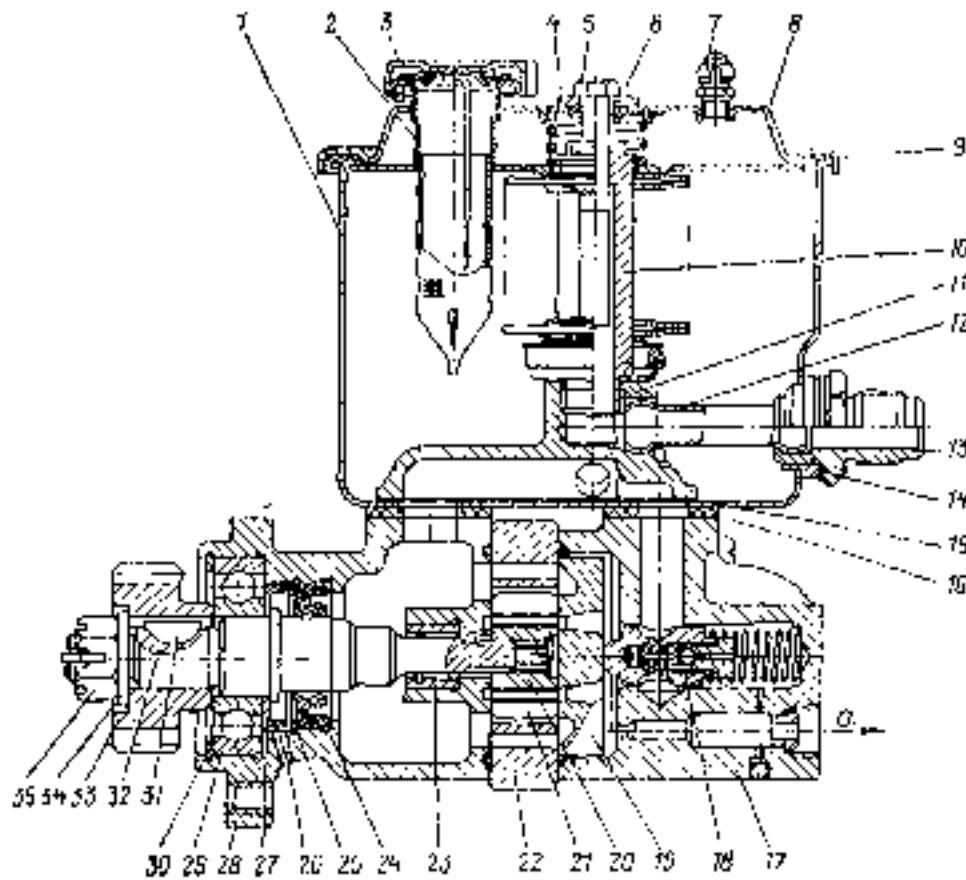

Fig. 96. Breast Pump:
Booster pump (Fig. 96) is a vane-type double-action unit. When the pump shaft rotates, the vanes are pressed to the stator curved surface under centrifugal force and pressure of the oil flowing under them. In the suction chambers the oil flows in-between the vanes, being then forced, when the rotor turns, to the delivery chamber.
5. Remove cover 8 (see Fig. 96), filter 2 and wash them.